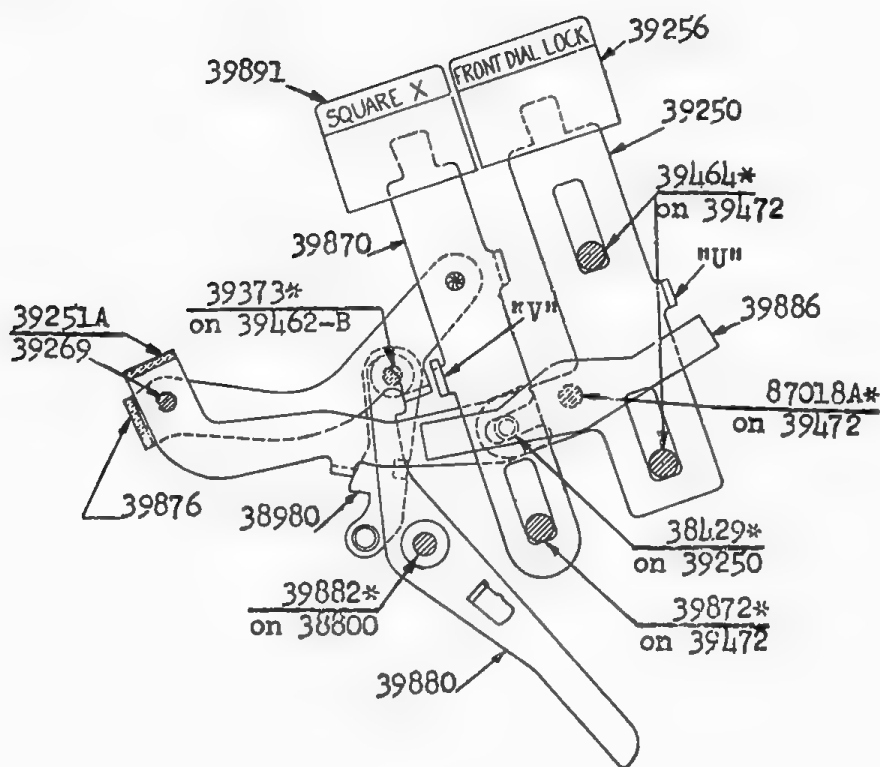

FIG. 85
1. (Fig. 85). In order to prevent accidental simultaneous depression of both the Square and the Front Dial Lock Keys an Interlock-39886 is